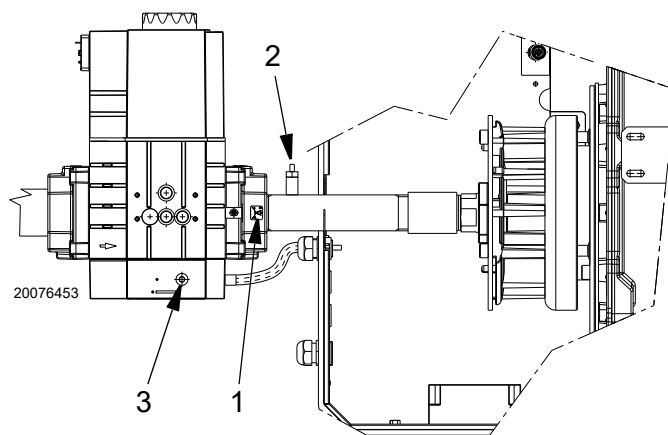

Fig. 5
The diagrams allow you to set the power output either using the number of fan revs or using the pressure downstream of the gas valve (Fig. 5).
* Tighten screw 1)(Fig. 5) fully home towards “-” mark, then open it towards “+” mark, following the indications provided in Tab. G.
Key (Fig. 5)